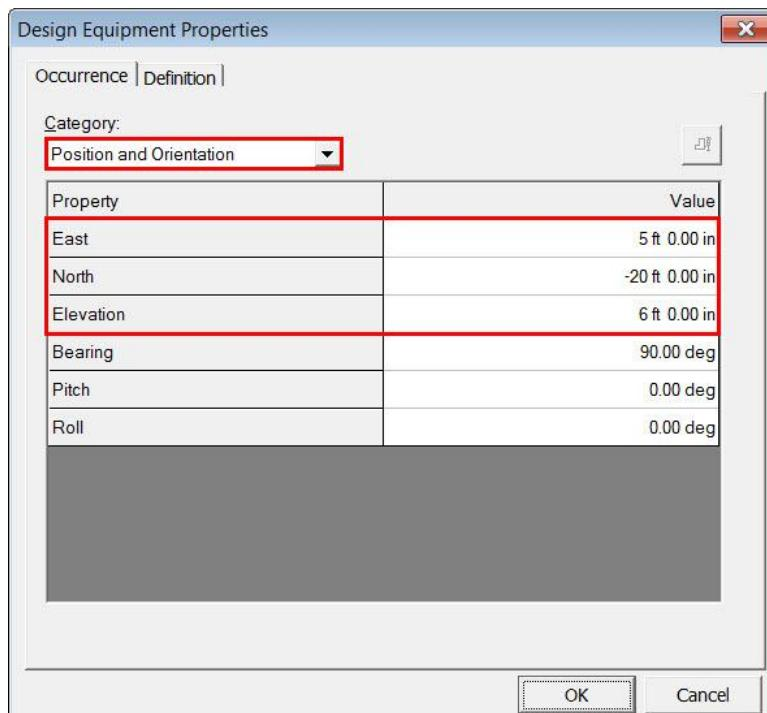

Figure 5. 9: The E, N and El Values Selected
9. Switch to the **Definition Tab** and set the classifications, as shown in Figure 5. 10.